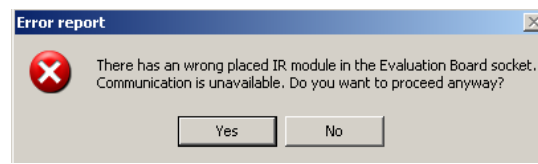

Fig. 5.4
IF a module is put incorrectly the user will be notified (Fig. 5.4).
*Note 3: When more than one module is connected on the bus an error message (see Fig. 5.4) will be shown. Note that this doesn't mean mandatory that there is incorrectly put module but the user is encourages carefully to check the modules before click button Yes.*